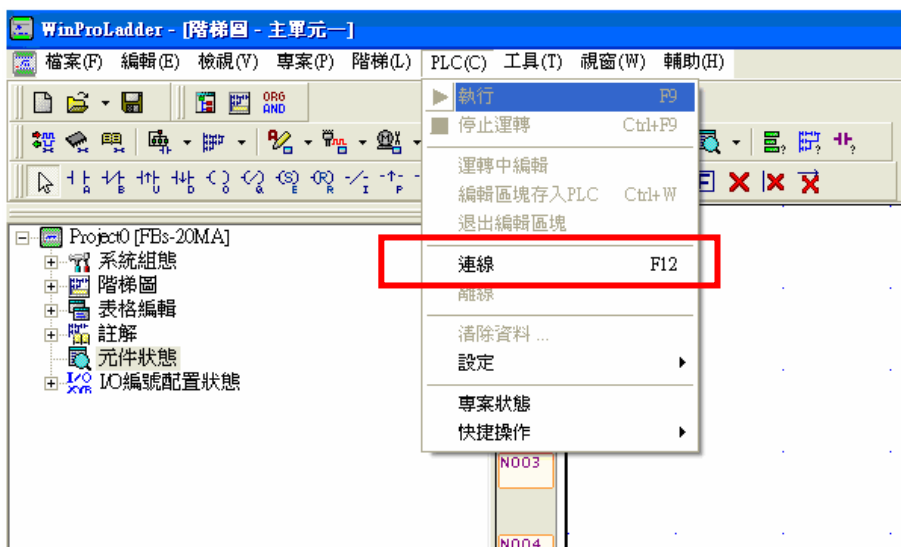

Figure 2-1-37: Set device office number
- FATEK PLC must use the PLC edit software to start RUN so that HMI can normally write in PLC. Click the “Connect” in the PLC menu to conduct this action as shown in figure 2-1-37.